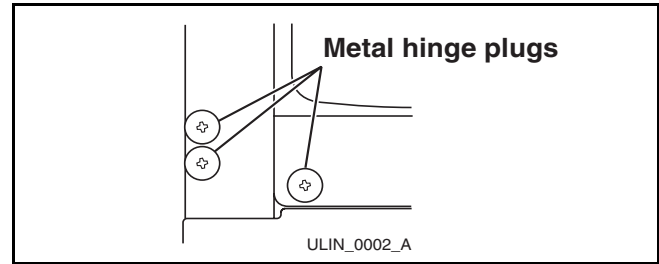

Figure 35
2. Remove metal hinge plugs (three each, top and bottom) (**Figure 35**) from new hinge location. Do not discard.